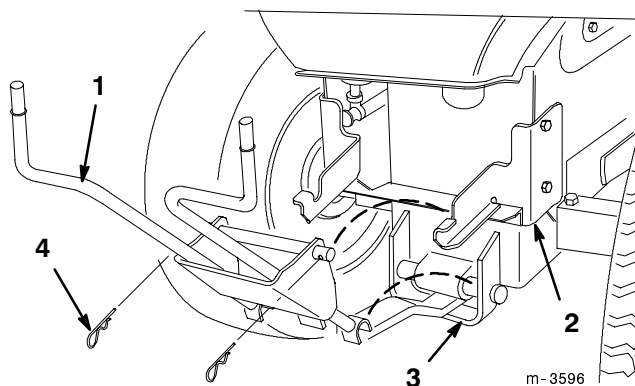

Figure 15
1. Seat the rod ends of the quick-attach bracket down into the two grooves in the bagger hitch, with the two feet of the bracket resting on the tractor hitch. Secure the bracket to the hitch with (2) hairpin cotters (Fig. 15).